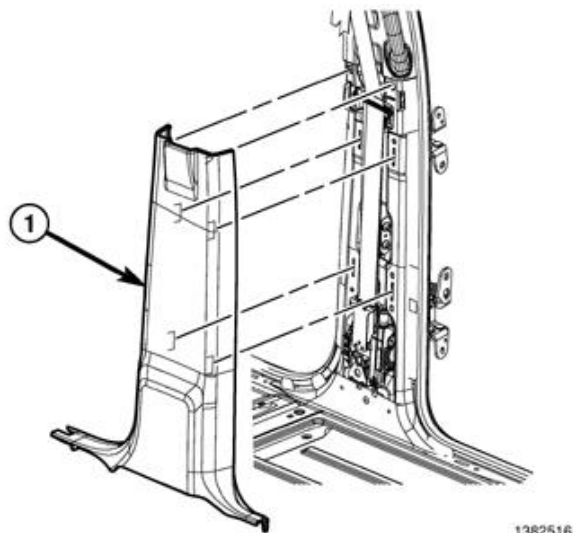

Figure 18 – B-Pillar Lower Trim Panel
7. Release the retaining clips and remove the B-pillar lower trim panel to allow for removal of the B-pillar upper trim panel (Figure 18).
56. Position the B-pillar lower trim panel and engage the retaining clips fully (Figure 18).